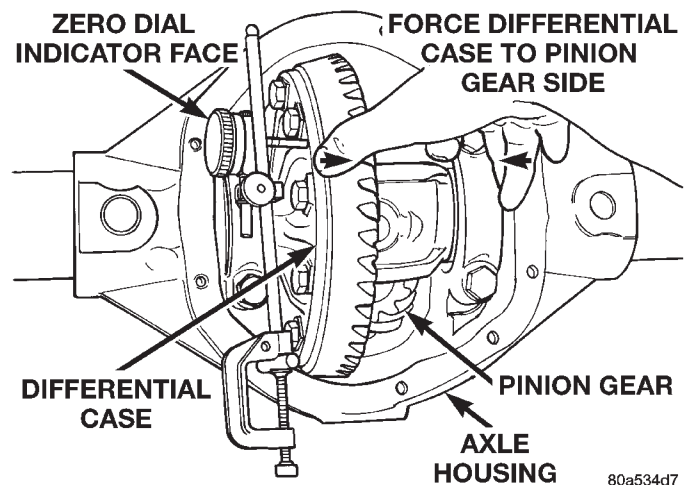

Fig. 71 Hold Differential Case and Zero Dial Indicator
- (22) Push and hold differential case toward pinion gear (Fig. 71).
- (23) Zero dial indicator face to pointer (Fig. 71).